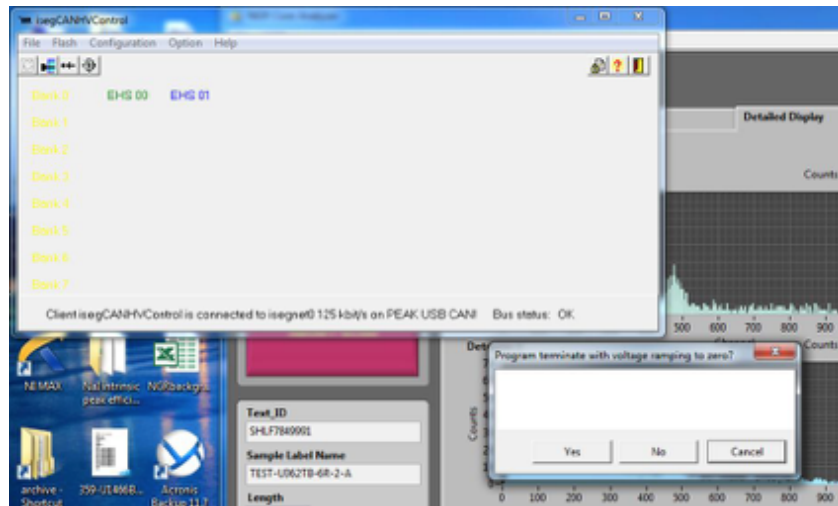

Figure 14. Program termination query.
5. **Exit** the **iSEG** program. A window (Figure 14) will pop-up asking: **Program terminate with voltage ramping to zero?**. Click **YES**. The power will ramp down on all channels.
13. Exit the iSEG program. A window (Figure 14) will pop-up asking: **Program terminate with voltage ramping to zero?** Click **NO**. This maintains the power on all channels. **NOTE:** If you answered **Yes** inadvertently, start again at Step 7.